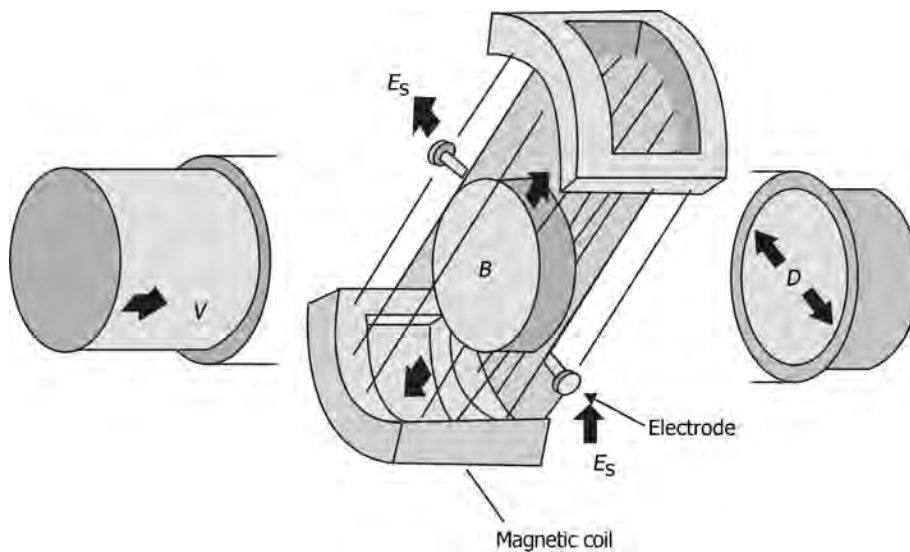

FIGURE 4.27 Magnetic flow meter and its components.
- A pair of magnetic coils is situated as shown in Figure 4.27 and a pair of electrodes penetrates the pipe and its lining.